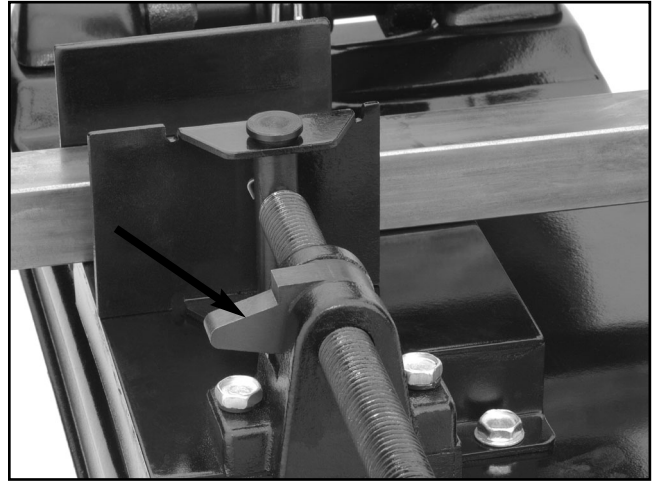

Figure 13. Quick nut.
- When the quick nut pointer is positioned to the left, the vise jaw can slide rapidly up to the material (**Figure 13**).